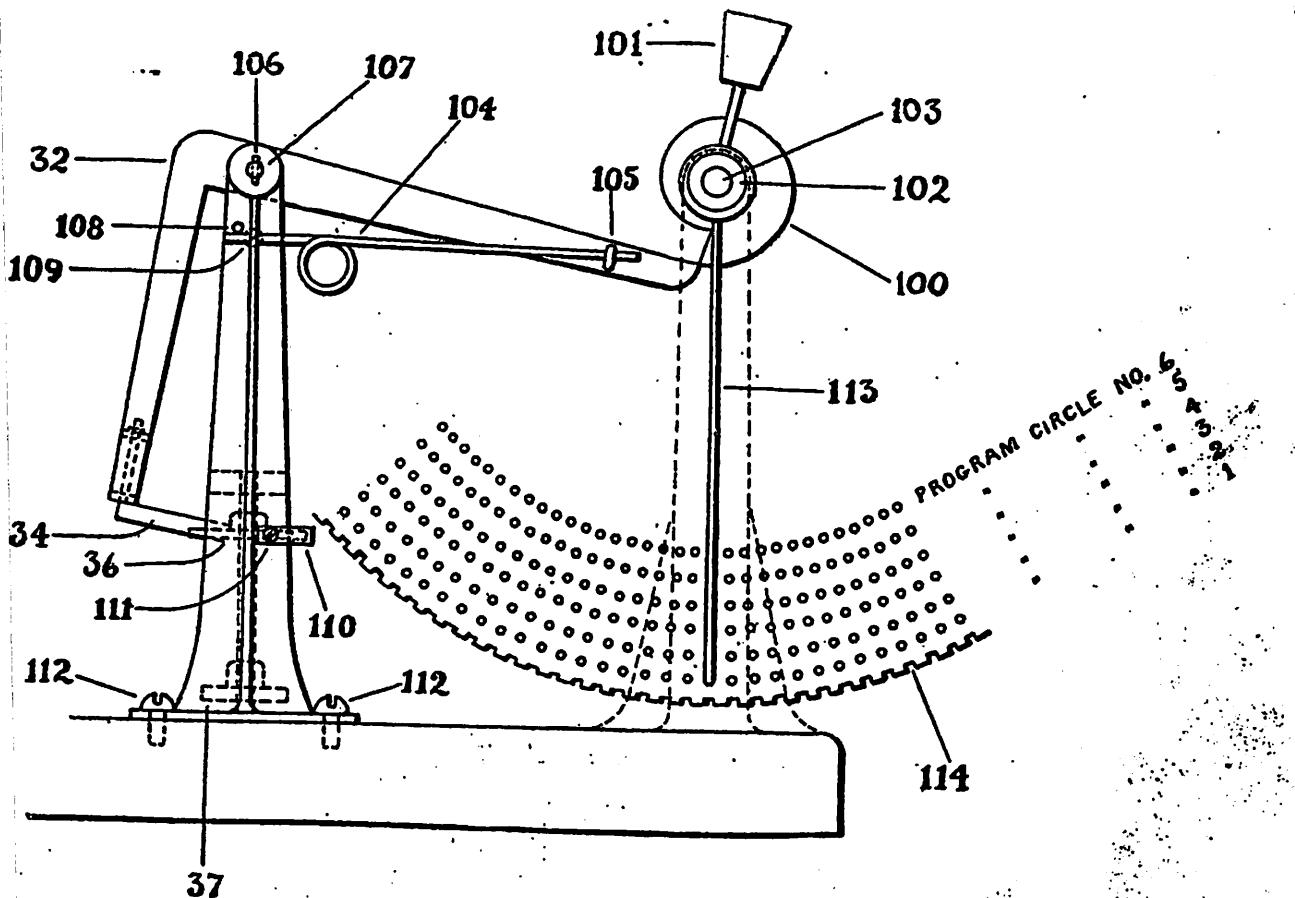
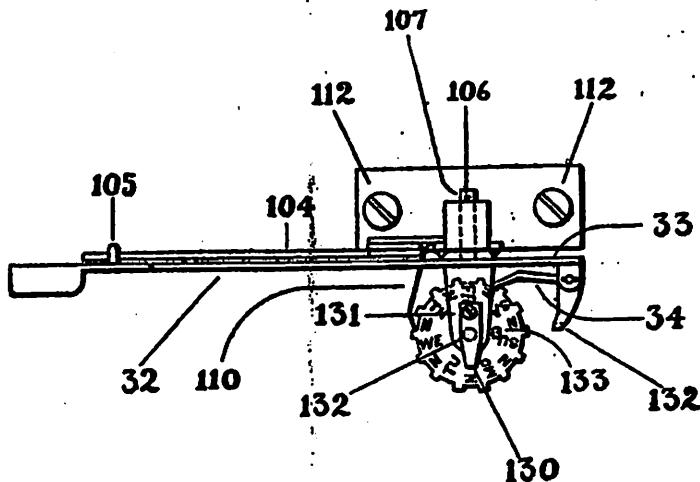
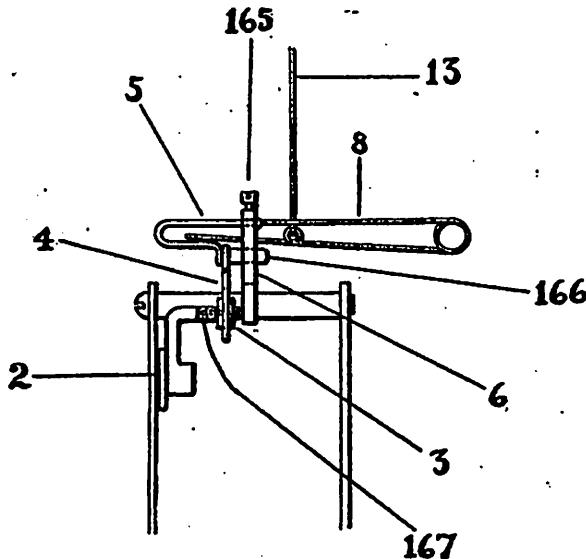
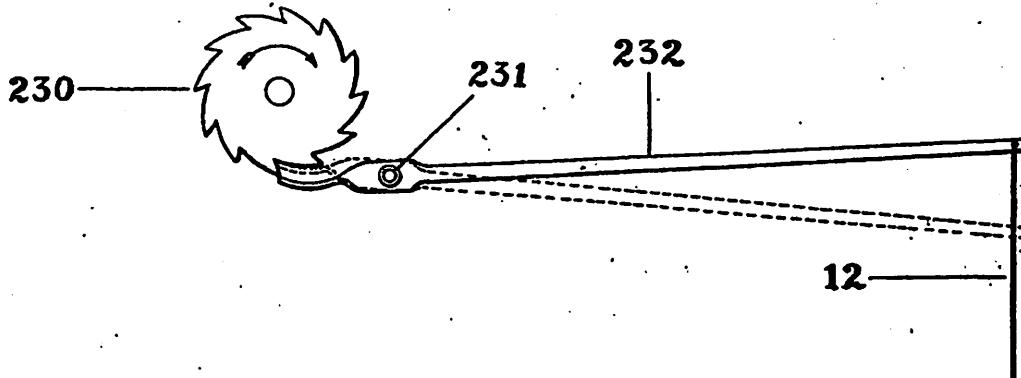

Fig. 2
Fig. 3
Fig. 7
Fig. 8
2. The outer or largest circle is No. 1, the next one No. 2 and so on. See Fig. 2.
1. Place your finger against front edge of indexed ratchet wheel and turn it from left to right until the pointer 130 Fig. 3, stands at the index of the day or night on which you are setting it. If you set it between 6 a. m. and 6 p. m. Monday, set to "Mo"; if after 6 p. m. Monday set to the "N" following "Mo" and so on.
2. When setting the automatic cut-out be sure that the spring dog 110, Figs. 2 and 3, is just back of a tooth as shown in Fig. 3. This is important.
2. When setting the automatic calendar-switch be sure that the spring dog 110, Figs. 2 and 3 is just back of a tooth as shown in Fig. 8. This is important.
The automatic calendar switch is the same as shown in Figs. 3 and 5, except that the hard rubber switch drum is larger in diameter and each circle
The program mechanism is connected to the master clock by the connecting wire 12, Figs. 1 and 8, which at its upper end is connected to the starting lever 232. Starting wheel 230, Fig. 8, is mounted on centre arbor of master clock and lifts starting lever 232 once each five minutes, allowing it to drop at the end of each five minute period. At its lower end connecting wire 12 is connected to starting spring 8, Figs. 1 and 7. When starting spring 232, Fig. 8, is raised to its highest position, starting spring 8 should be well above the inner end of starting dog 4, Figs. 1 and 7, and when starting spring drops it should strike in the corner of the L shaped bracket 6, Figs. 1 and 7. Starting spring should also have some tension against edge of bracket 6 so that it does not pass over starting dog 4, Figs. 1 and 7, without moving it. Starting spring 8 is held in bracket 6 by set screw 165, Fig. 7. By means of adjusting link 10 and clamping screw 11 length of connecting wire 12, Fig. 1, can be adjusted to give starting spring 8 proper lift. Each time starting
spring 8 sweeps down along edge of bracket 6 it strikes starting dog 4, which allows drop arm 2, Fig. 1, to fall, which in turn strikes outer end of counting arm 17, lifting inner end of counting arm 17 out of notch in counting wheel 22 and lifts arm 18 out of stop wheel 19, thus putting in motion the motor movement, including driving wheel 23, which causes rocker arm 24 to turn on its pivot and move propelling rod 28 forward. It will be noticed that propelling rod 28 projects up through a slot in base under program dial and engages the notches in periphery of dial, thus imparting motion to dial. When driving wheel 23 has moved one tooth, or space, the inner end of counting arm 17 drops into a notch in counting wheel 22, stop arm 18 drops into the path of a tooth of wheel 19 and movement comes to rest. Just an instant before movement comes to rest the head of rocker arm—its upper end—passes a tooth on driving wheel 23 and permits receding spring 57 to return propelling rod 28 to its starting position. It will be also noticed that while driving wheel 23 is moving rocker arm 24 it is lifting drop arm 2 to its starting position and that starting dog 4 drops in under roller 3 just before movement comes to rest. A lug on the inside of drop arm 2 rests on driving wheel 23. By this means drop arm 2 is lifted to its starting position. Starting dog 4, Figs. 1 and 7, is held on stud 166, Fig. 7, by guard 5. It is important that the guard rests on end of stud and does not bind dog 5. 53, Fig. 1, is the backlash dog, which must drop into a notch just as movement of dial is completed. If it does not, dial may be moved backward when propelling rod recedes.
The cam 100, Figs. 1 and 2, revolves once each twelve hours and operates switch arm 32, which carries at its lower end the pawl 34 which engages indexed ratchet wheel 36, Figs. 1, 2, 3, 4 and 5, turning ratchet 1-14th of a turn at each movement. Spring 104, Fig. 2, supplies the power to move switch arm 32. When switch arm 32 is released by cam 100 and pawl 34 turns indexed ratchet wheel one tooth the stop lug 132, Fig. 3, must move into path of a tooth of ratchet wheel 36 and prevent it from moving more than one tooth. The spring pawl 110 must also be in position shown in Fig. 3 on completion of movement.